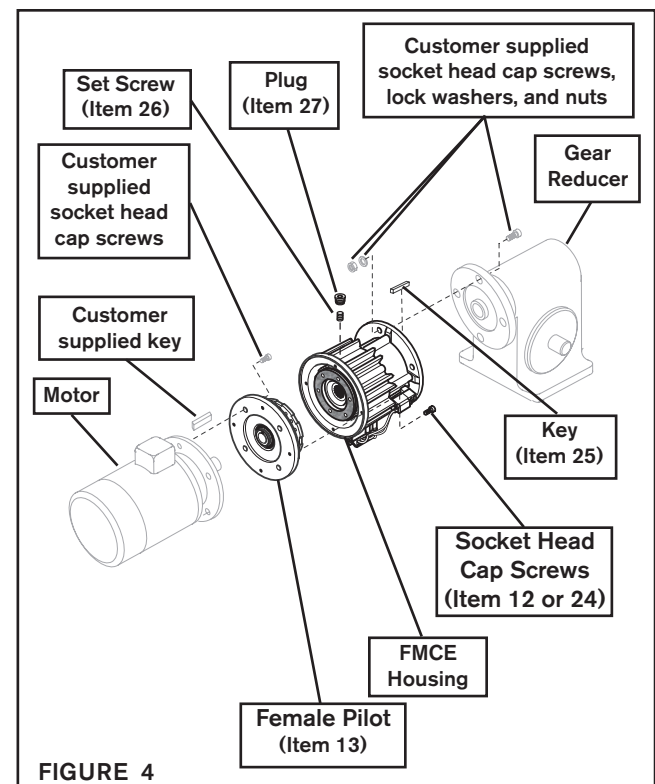

FIGURE 4
1. Insert the Key (Item 25) into the output shaft of the FMCE (See Figure 4).
2. Slide the FMCE output shaft into the gear reducer (See Figure 4).
3. Secure the FMCE to the gear reducer using customer supplied socket head cap screws, lock washers, and nuts (See Figure 4).
4. Insert the customer supplied key into the motor shaft keyway (See Figure 4).
5. Remove the Socket Head Cap Screws (Item 24) and the Female Pilot (Item 13); then, secure the Female Pilot to the motor face using customer supplied socket head cap screws (See Figure 4).
6. Slide the FMCE Housing (Item 1) onto the motor shaft (See Figure 4).
7. Apply a drop of Loctite® 242 to the threads of the Socket Head Cap Screws (Item 24) (See Figure 4).
8. Secure the FMCE Housing (Item 1) to the Female Pilot (Item 13) using Socket Head Caps Screws (Item 24); then, alternately and evenly tighten the Socket Head Cap Screws to the recommended torque (See Figure 4 and Table 2).
9. Align the Set Screw (Item 26) in the Drive Disc (Item 4) with the hole in the FMCE Housing (See Figure 4).
10. Tighten the Set Screw (Item 26); then, install the Plug (Item 27) (See Figure 4).